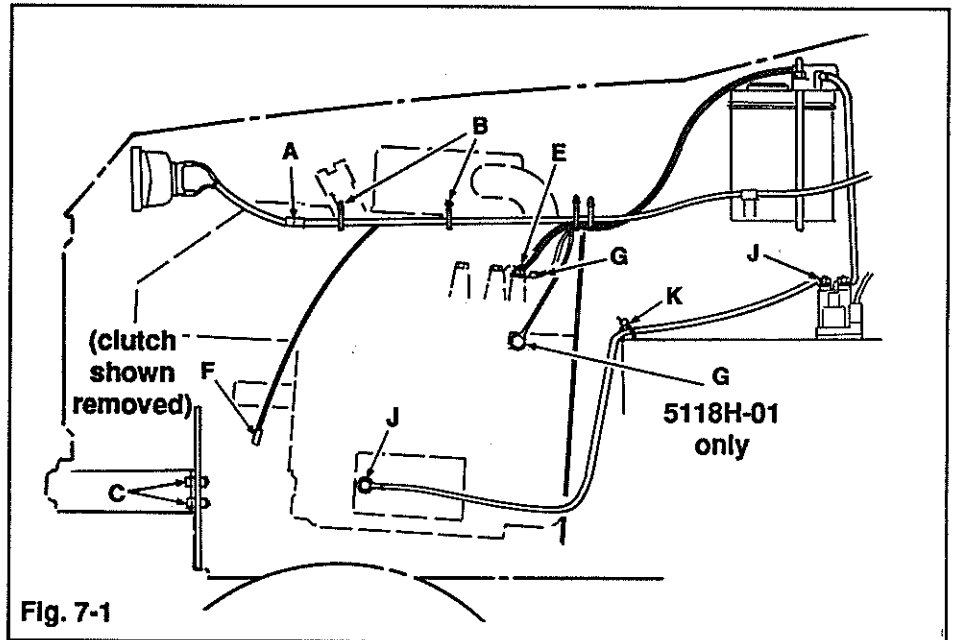
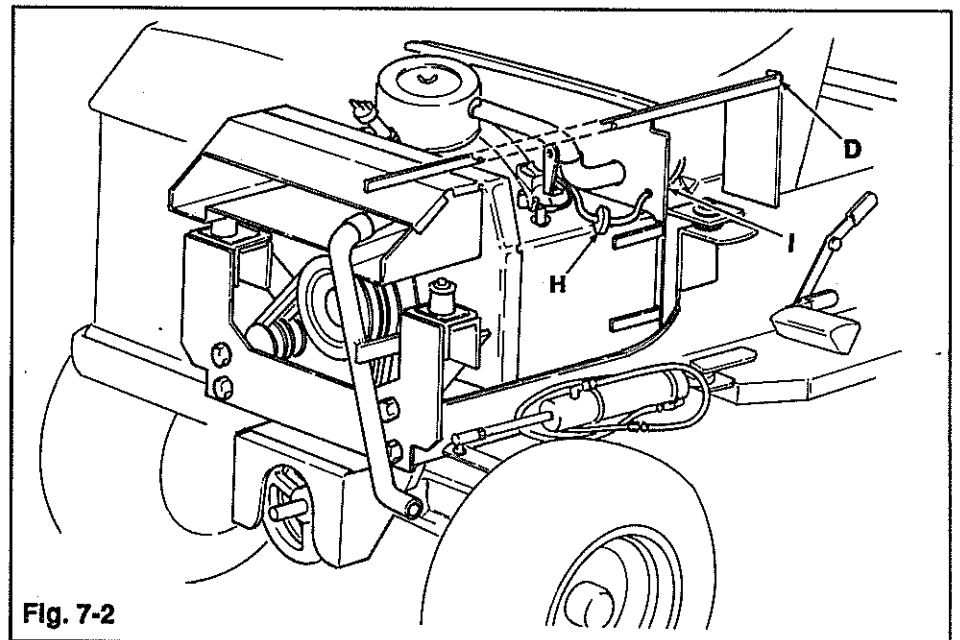

Fig. 7-1
Fig. 7-2
2. Disconnect main wiring harness from the headlight harness (A, Fig. 7-1) and cut cable ties (B) where attached to grille support.
3. Remove four (4) 3/8" capscrews (C) securing the front bumper to the frame, and the two (2) 1/4" screws (D, Fig. 7-2) at the rear of the grille support at the instrument panel support.
5. Disconnect engine electrical connection plug (E, Fig. 7-1), electric clutch connection (F) and cut related cable ties.
6. Disconnect small ground wire connection on intake manifold (G). Note routing of harness in engine compartment and location of harness ties prior to removal. Lay harness back on instrument panel.
7. Disconnect fuel line at filter (H, Fig. 7-2) and tightly plug open line and connection. Pull line out of heat shield (I).
8. Disconnect solenoid to starter cable at solenoid and starter (J, Fig. 7-1) and cut cable tie (K) at tunnel near left rear engine mount.